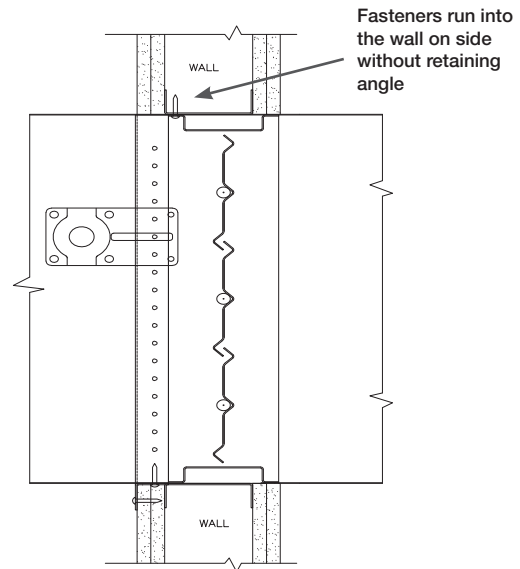

Figure 2: Fastening of damper on the side without retaining angles
- On the side with no retaining angle, fasteners shall be run through the damper sleeve into the steel stud or block wall. For steel stud walls fasteners shall be #10 x 1½ in. (38mm) sheet metal screws. See Figure 2. For masonry or block walls fasteners shall be ¼ in. x 1½ in. (6mm x 38mm) self-tapping concrete screws.
- On the top side of the damper sleeve fasteners shall be run up through the sleeve into the steel stud or block wall. For steel stud walls fasteners shall be #10 x 1½ in. (38mm) sheet metal screws. See Figure 2. For masonry or block walls fasteners shall be ¼ in. x 1½ in. (6mm x 38mm) self-tapping concrete screws.